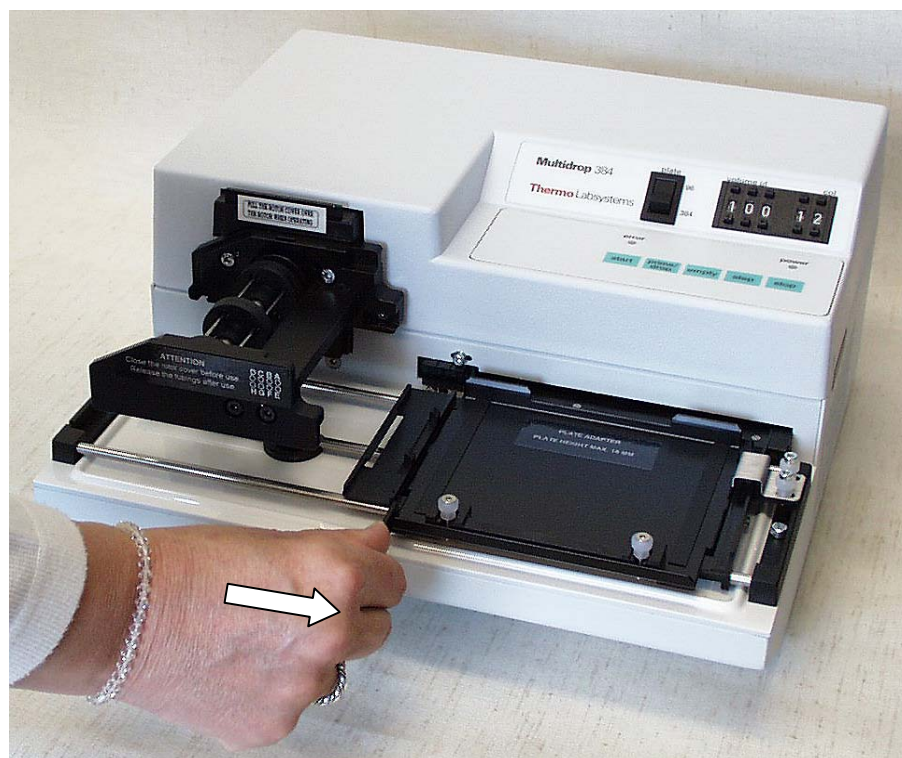

Fig. 6.11 Closing the plate adapter lock
4. Lock the plate adapter into place with the plate adapter lock located in the front left corner of the plate carrier (Fig. 6.11).